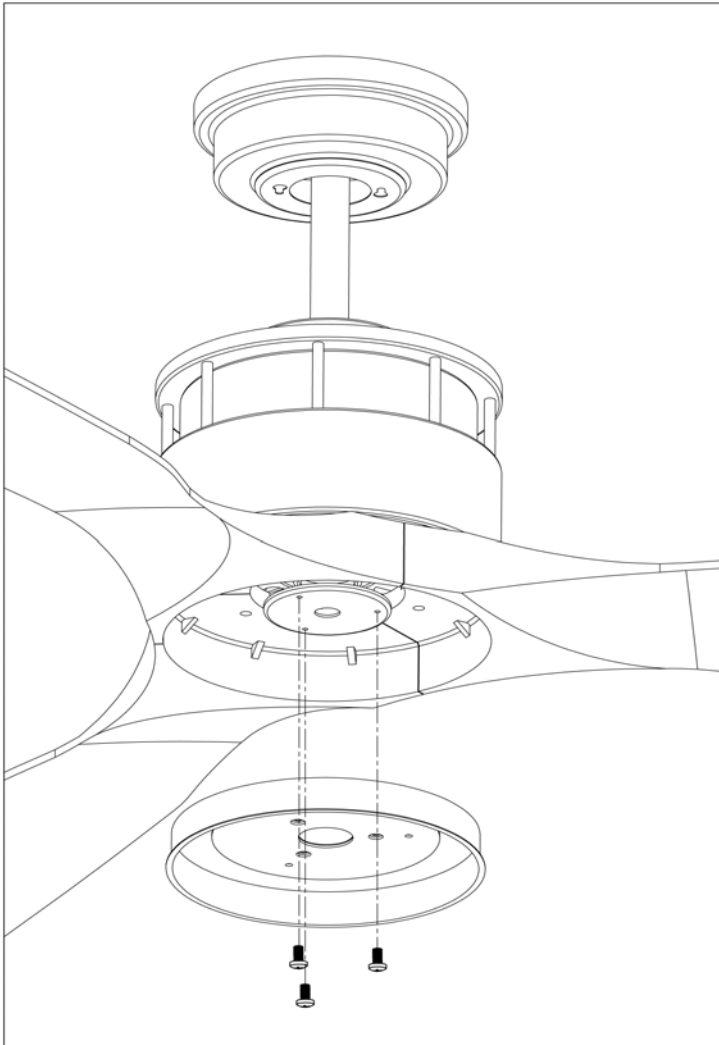

Fig.6
1. Remove 3 screws on the connective plate, align the holes, then lock back the 3 screws removed previously on the light kit .(See Fig.6. )